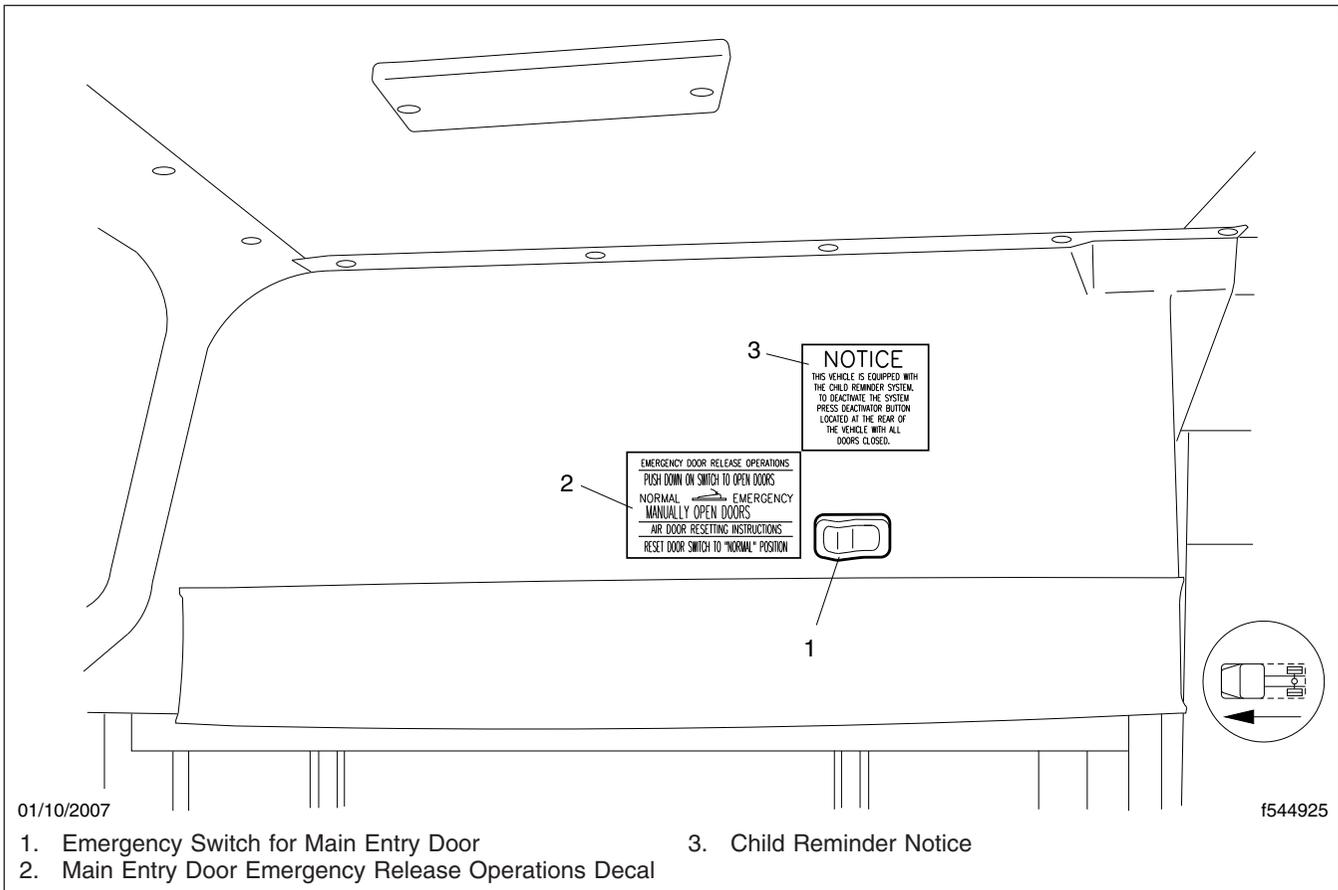
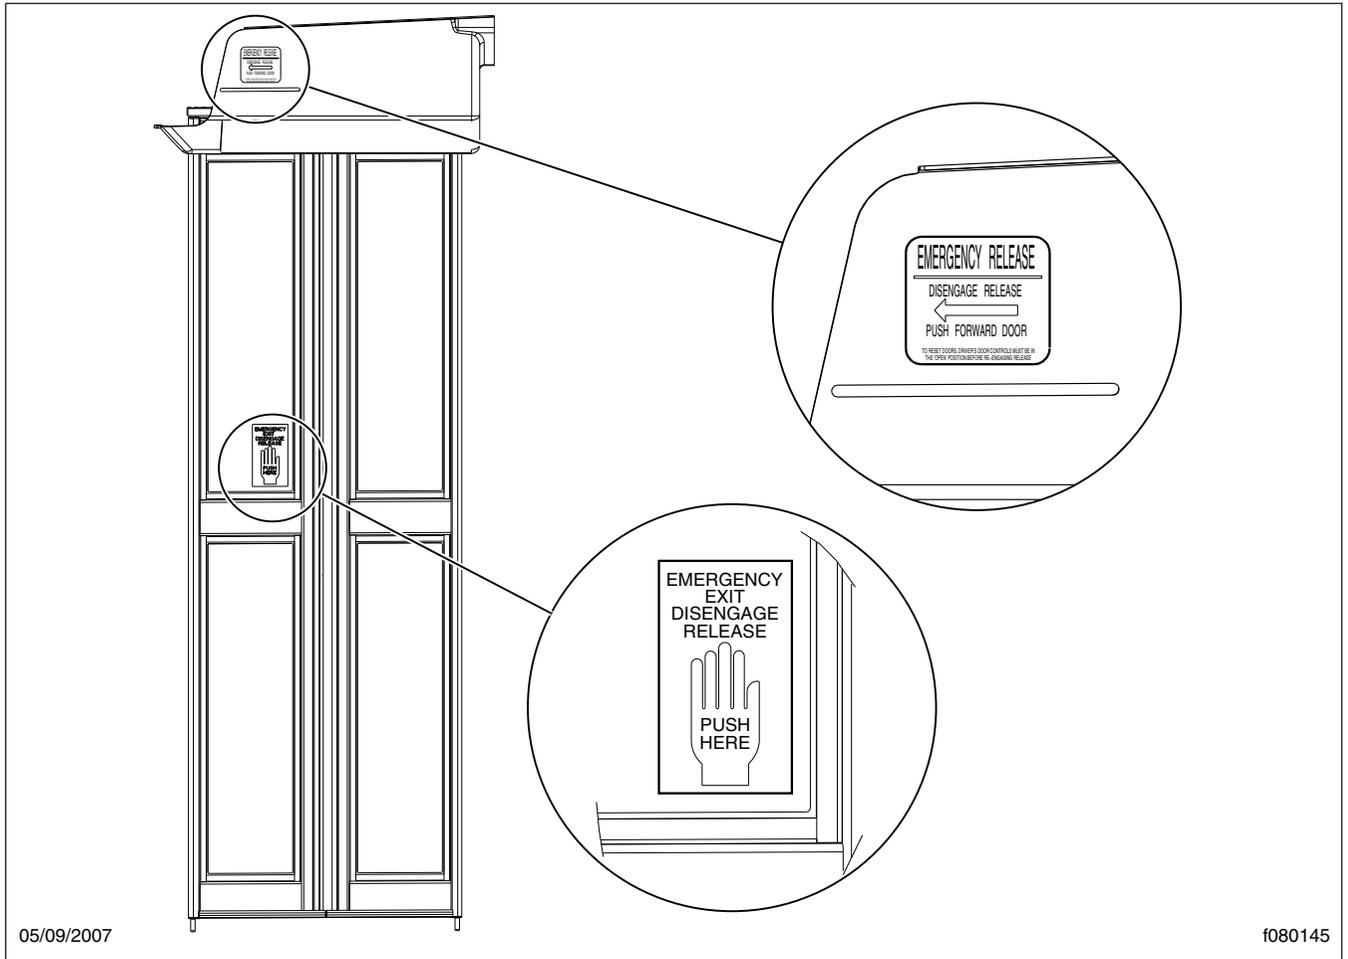

Fig. 2.4, Emergency Switch for Main Entry Door
Fig. 2.10, Disengaging the Main Entry Door in an Emergency
2. After entering the vehicle, activate the emergency air release rocker switch located above the door. See Fig. 2.4.
In an emergency, it may be necessary to use the red switch above the main door to open the door. Push down on the red switch to open the door, then push the door open. See Fig. 2.4 and Fig. 2.10.